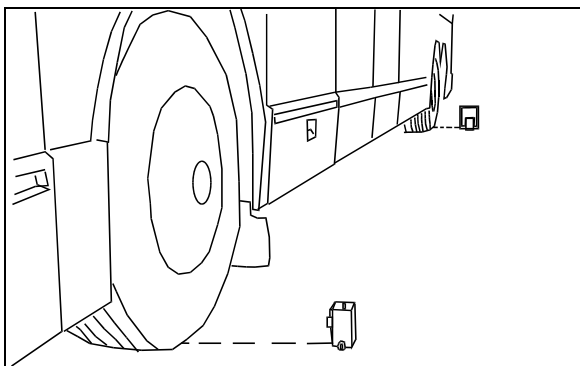

FIGURE 48: INSTALLING CALIBRATION FIXTURES 06497
7. Install a calibration fixture in the axis of front axle wheel and one in the axis of rear axle wheel (Fig. 48).